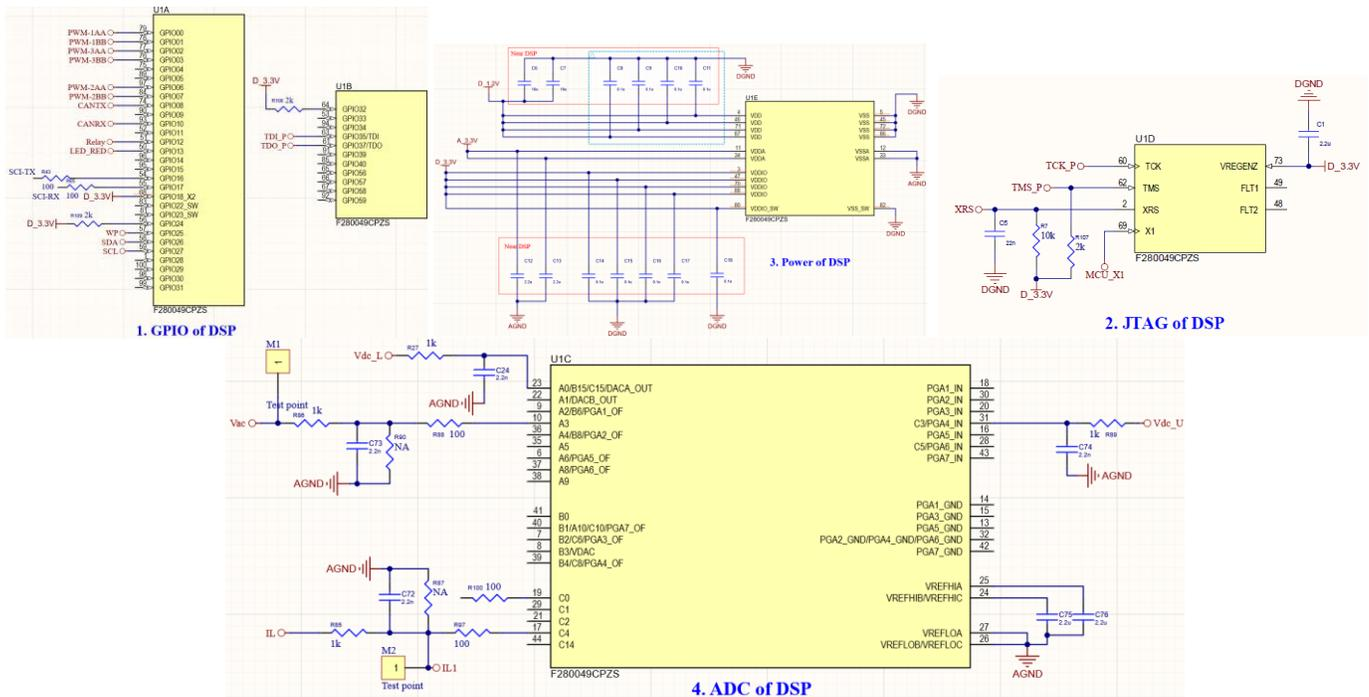
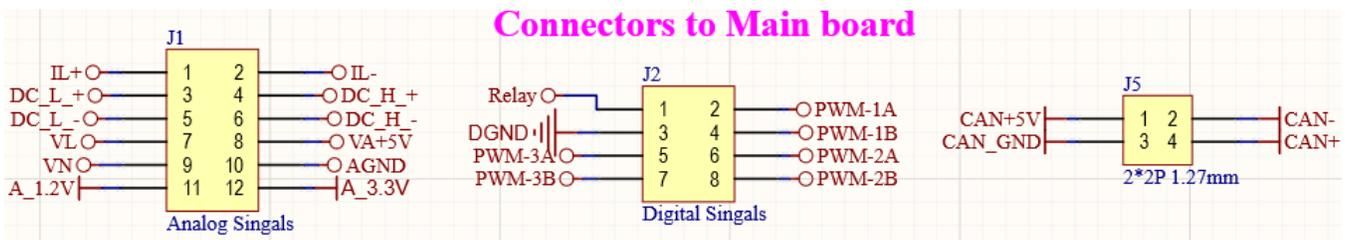

Figure 3a. Schematic of Control Board: DSP Controller
Figure 3f. Schematic of Control Board: Power Supply and Connectors to main board
As illustrated by Figure 3a to Figure 3f, the control board, which carries out the control algorithm of the entire system, is designed using a Texas Instruments Inc. (TI) controller (P/N: F280049CPZS). The DC voltages +18.0V generated from an isolated power supply are supplied to the main board via connector J5. The power supply for the control board is an isolated, 5.0V power supply generated from a linear regulator in the main power board. This 5.0V voltage rail then supplies another precision linear regulator, U9, from Texas Instruments Inc. (P/N: TPS70445), which provides both a 3.3V and a 1.2V voltage rail. As shown in Figure 3f, the power supplies for analog and digital circuits are separated by ferrite beads (L1, L2, L3). The analog ground and digital ground are connected finally by a 0Ω resistor. All output drive signals are buffered and shifted to a +5V level by a level-shifter. The reference voltage for the controller’s ADC (Analog-to-Digital Converter) is +3.3V generated internally by the DSP.